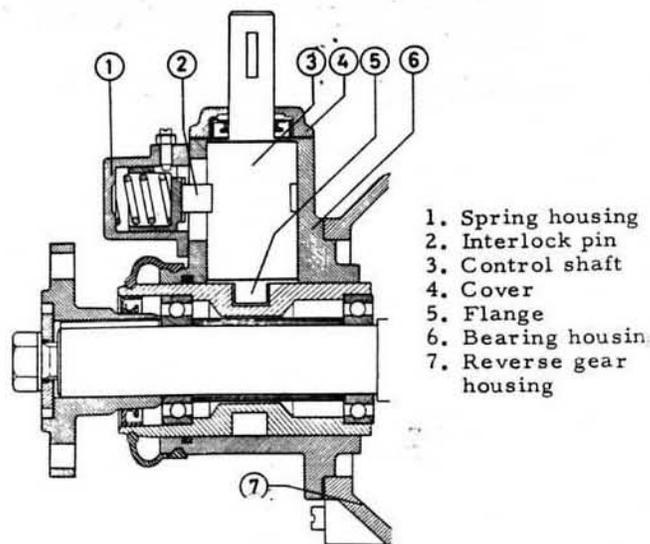

Fig. 71. Rear section of reverse gear
2. Loosen the bolts retaining the bearing housing (6, Fig. 71) attached to the reverse gear housing (7). Pull the bearing housing rearwards very slightly (facilitated by carefully engaging the lever), insert a knife between the sealing surfaces and carefully loosen the washer so that it only remains attached to one sealing surface. Remove the drain plug in the lower edge of the housing.